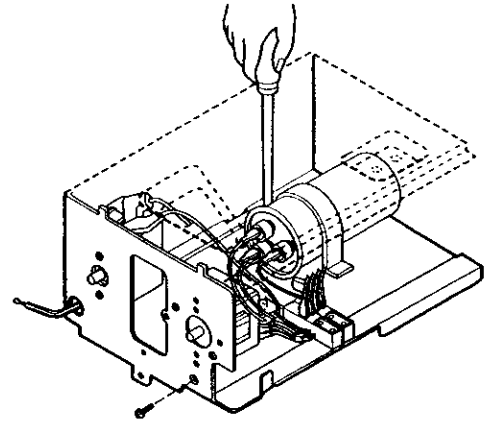

Figure 50
6. Re-install the components by referring to the removal procedure, above. (See Figure 50)